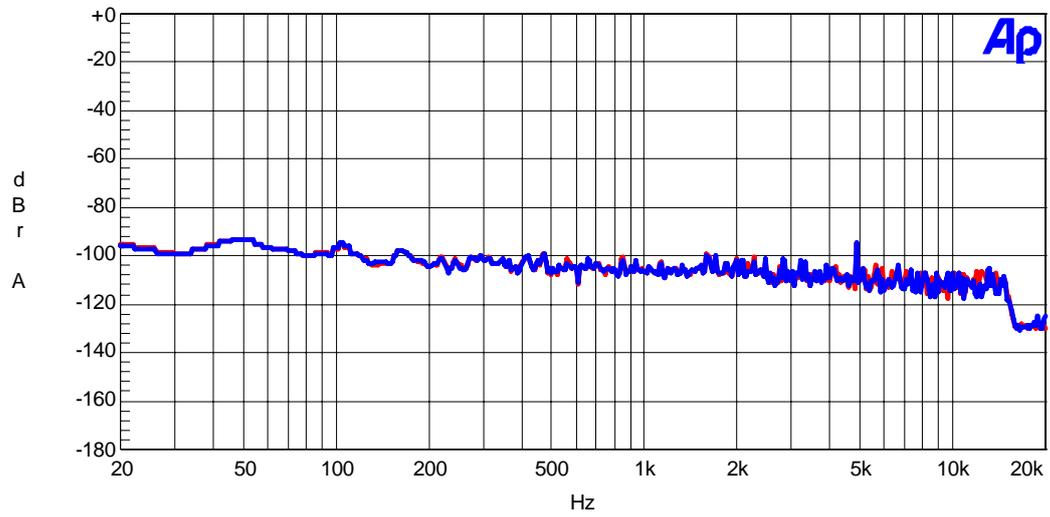

Figure. 15 Stereo mode FFT Plot (No Signal)
- Figure. 15 : FFT Plot (No Signal)